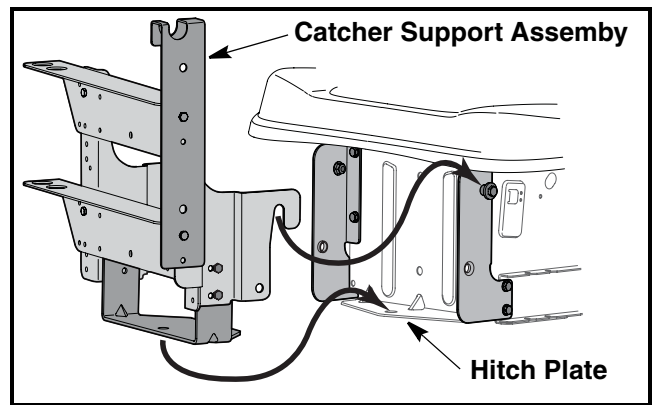

FIGURE 6
10. Using a 7/16" socket and ratchet and 7/16" box wrench, install the "A" sub-assembly with the eight (8) 1/4"-20 x .62" screws and 1/4" -20 hex lock nuts removed in Step 3. Do not tighten at this time, allow brackets to move slightly.
11. Set the upgraded catcher support assembly onto the tractor's Mounting Brackets as shown in Figure 6. Ensure that the catcher support assembly hooks equally onto the Fast Attach Shoulder Spacers and sets on top of the tractor's hitch plate.